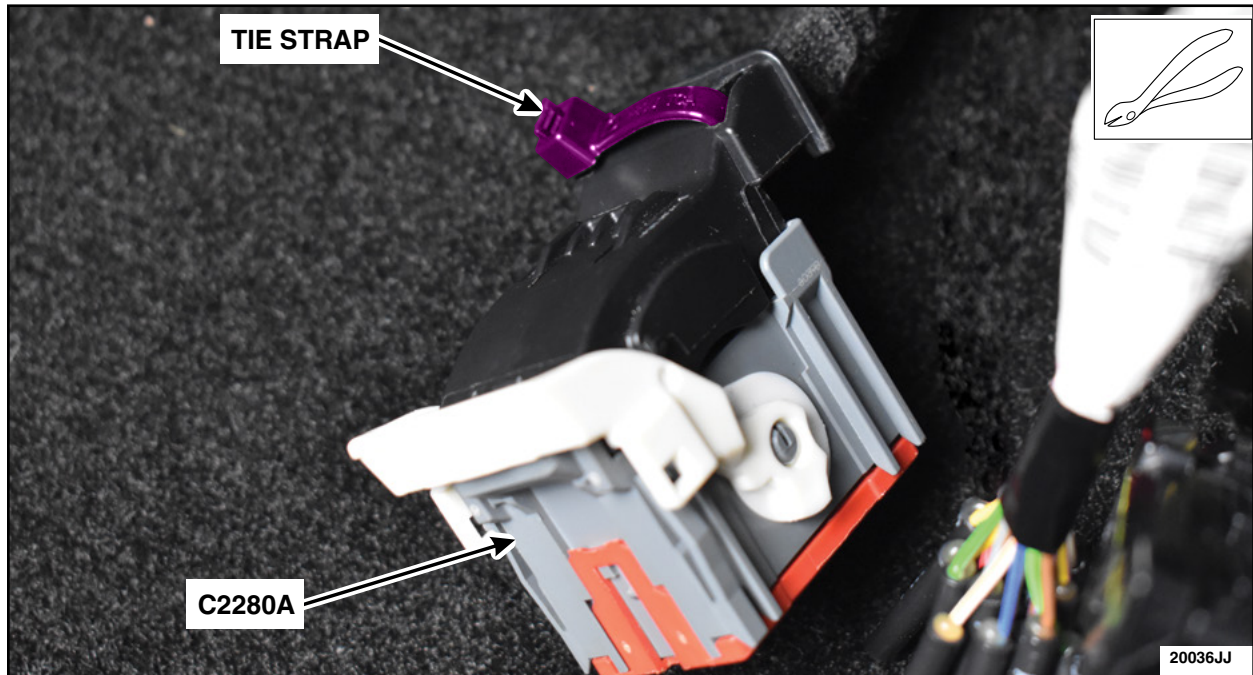

FIGURE 37
55. Remove the tie strap from C2280A. See Figure 37.